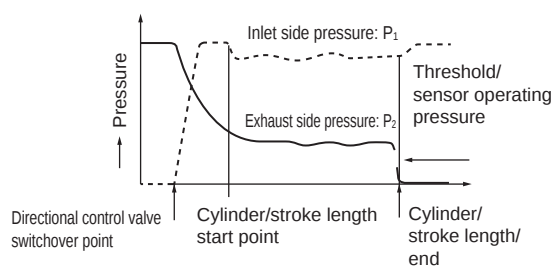

Fig. 1
The threshold sensor is attached like a fitting to the cylinder port. This sensor detects pressure change generated at both ends of the piston or a drop in exhaust pressure (P_2) near the stroke end and issues an air pressure signal (S) when P_2 is less than the switching pressure. (Refer to Fig. 1, 2)